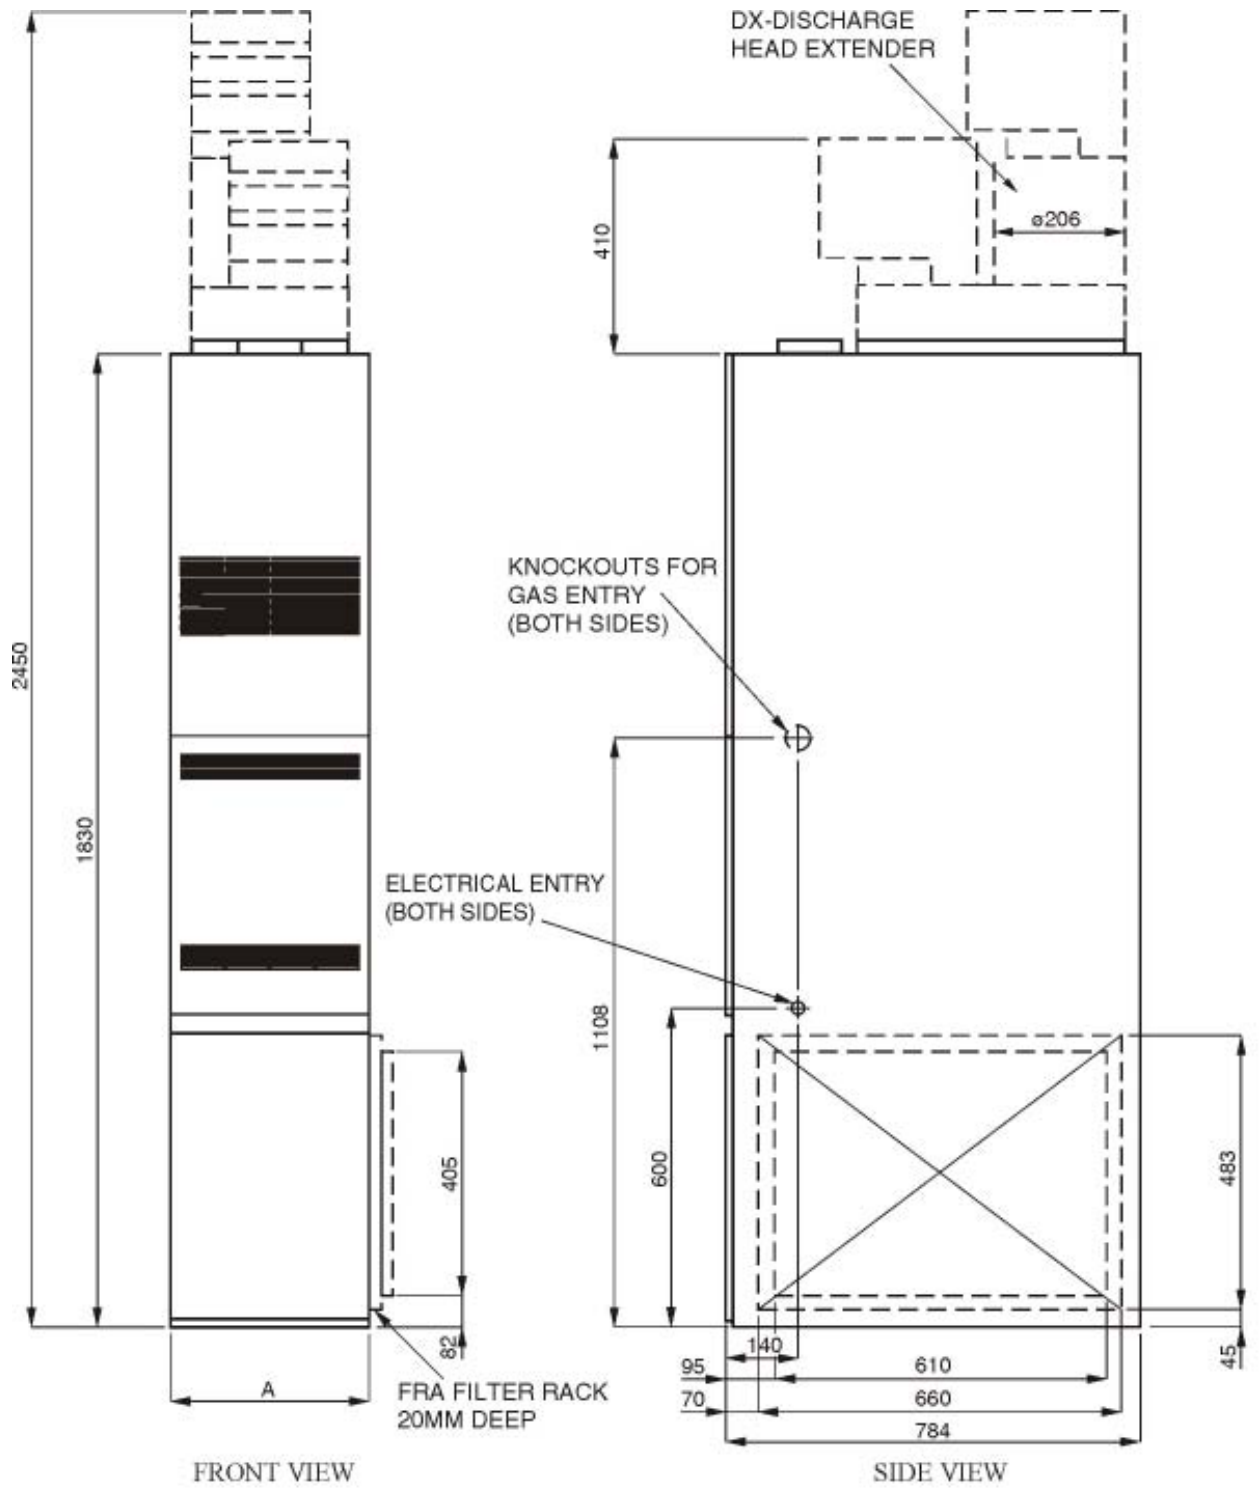

Fig. 6
- 8.8.3 At the Control Panel terminal block, (and referring to Fig. 6), disconnect the following: